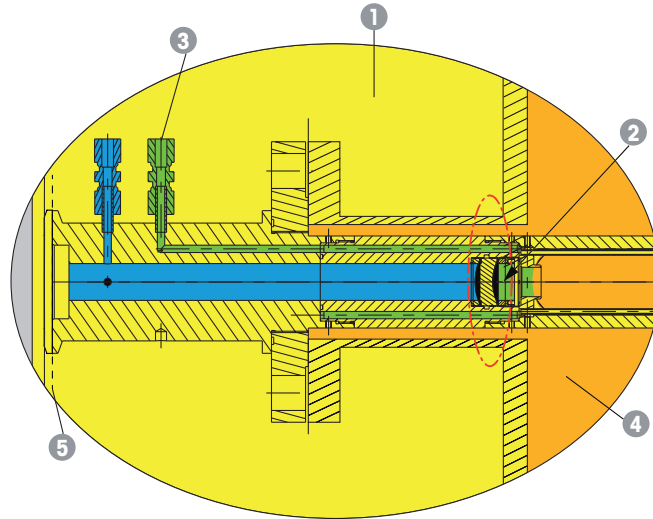

Figure 82 The GPro 500 Interface between Zone 0 and Zone 1
- 8 For detailed cross section view – see Figure 82 “The GPro 500 Interface between Zone 0 and Zone 1” on page 122